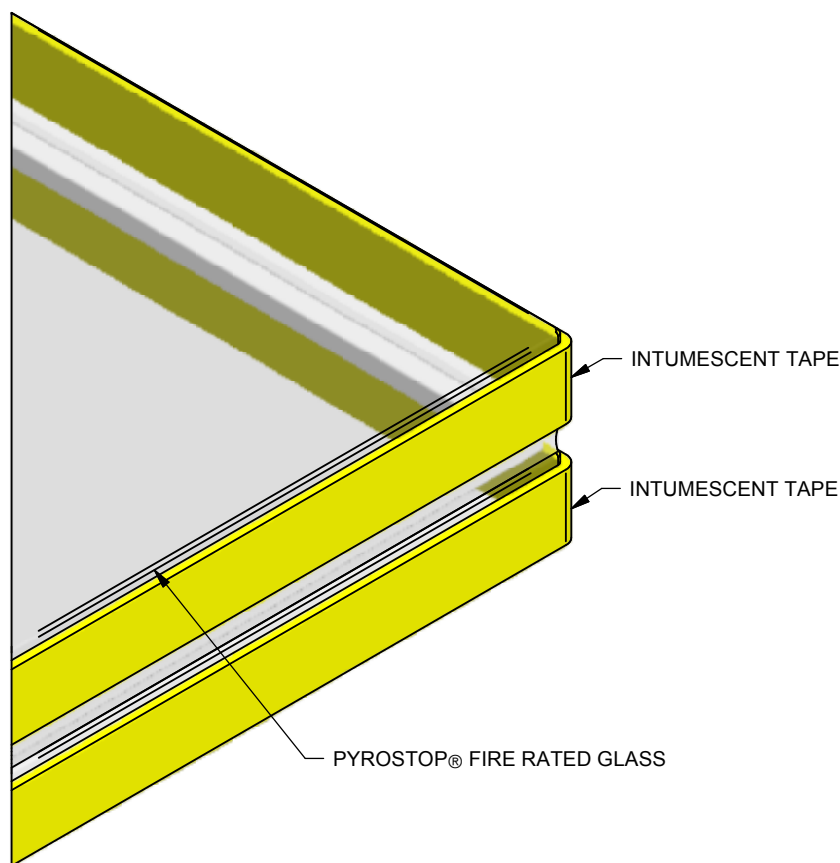

Figure 9: Intumescent Tape Installation
1. Before Pilkington Pyrostop is installed, all panes must have two strips of Intumescent (Fire Proofing) tape installed around all four sides of the glass (See Figures 9 and 13).